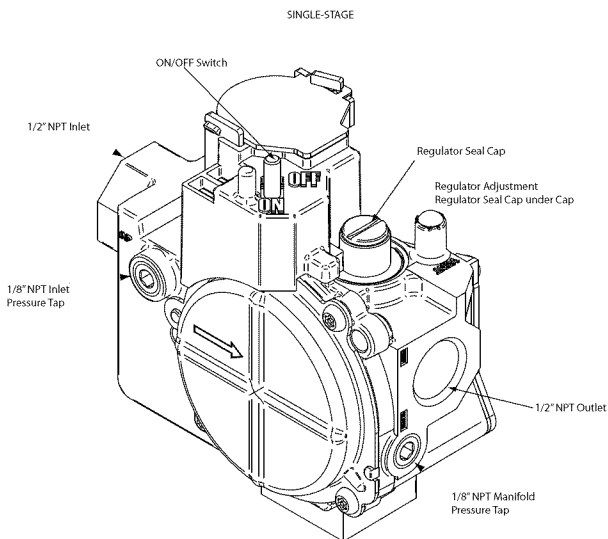

Fig. 52 - Gas Valve
- g. Remove regulator adjustment cap from gas valve pressure regulator (See Fig. 52.) and turn adjusting screw (3/16 or smaller flat-tipped screwdriver) counterclockwise (out) to decrease input rate or clockwise (in) to increase input rate.